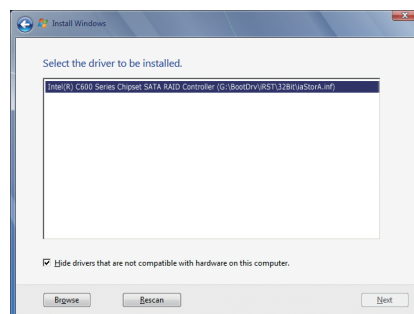
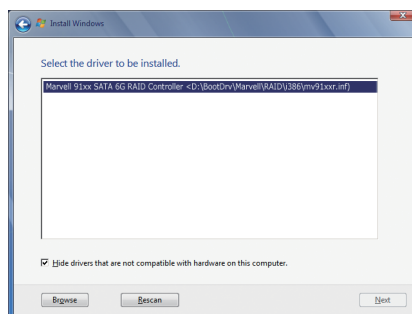

Figure 1
Figure 2
For Intel X79, select **Intel(R) C600 Series Chipset SATA RAID Controller** (Figure 1). For Marvell 88SE9172, select **Marvell 91xx SATA 6G RAID Controller** (Figure 2). Click **Next** to load the driver and continue the OS installation.